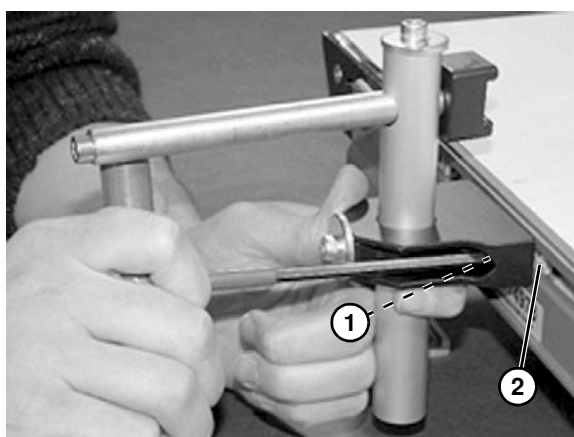

Figure 20
2. Tighten screws (**Figure 20, item 1**) making sure t-nut (**Figure 20, item 2**) rotates and engages inside of the t-slot.